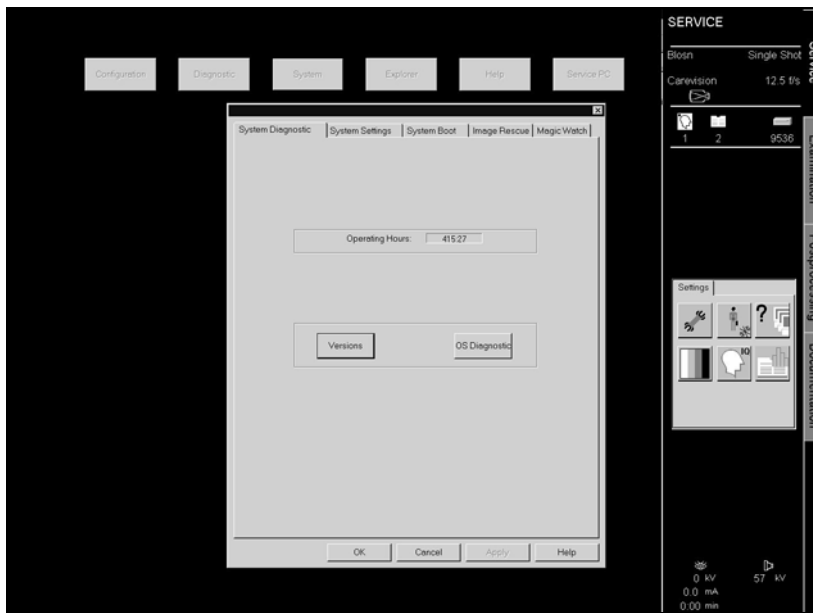

Fig. 1
- Select "System" in the service menu bar (Fig. 1).